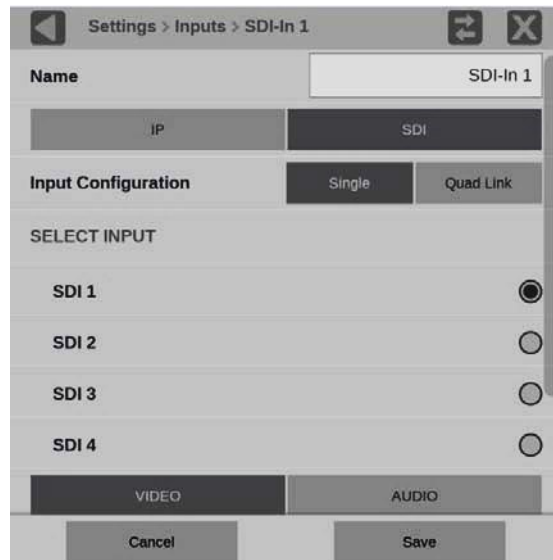

Figure 30: Single SDI signal configuration, SDI 1 input selected
4. Select **Single** for the Input Configuration and select one of the four physical SDI inputs to monitor. (See Figure 30.)